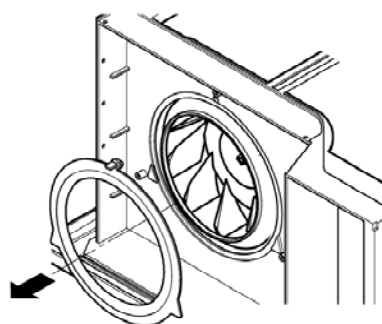

Figure 18
9. Pull out the hook of orifice by pushing the tabs and remove it. (See Figure 18)